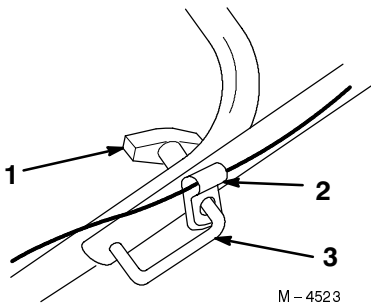

Figure 3
2. Loosen the knobs and pull out the handle locks until the upper handle rotates freely (Fig. 3).
Note: Make sure that the cable guide is in the position as shown in Figure 3.